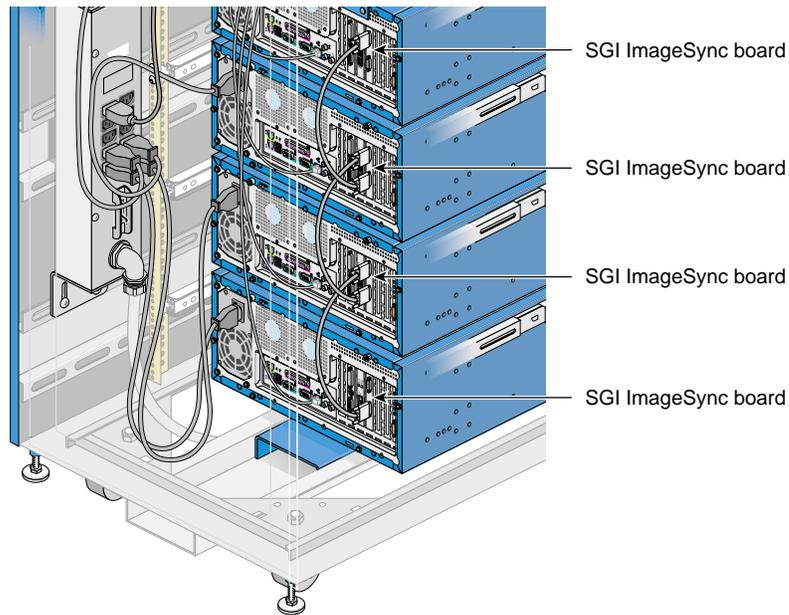

Figure 4 Disconnecting the External SGI ImageSync Cable, SGI Graphics Cluster Series 12 System
- For Series 12 systems, disconnect the daisy-chain cable from the node's external SGI ImageSync connector; refer to Figure 4. A Series 12 master node has one SGI ImageSync cable; channel nodes are daisy-chained to the nodes above and below.